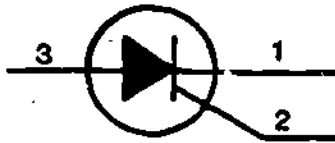

Figure 2
6. THIS IS A TEST FRAME. COMPLETE THE TEST QUESTIONS AND COMPARE YOUR ANSWERS WITH THE CORRECT ANSWERS GIVEN AT THE TOP OF THE PAGE FOLLOWING THE TEST QUESTIONS. REFER TO THE SCHEMATIC SYMBOLS SHOWN IN FIGURE 2 IN ORDER TO ANSWER QUESTIONS 1 THROUGH 3.